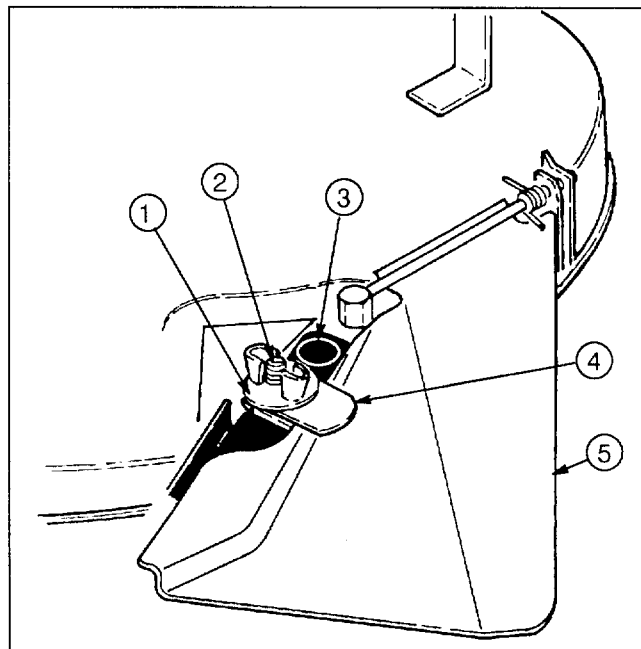

Figure 7
### INSTALLING DISCHARGE COVER (Fig. 7)
2. Place metal tab on long bolt as shown in Figure 7.